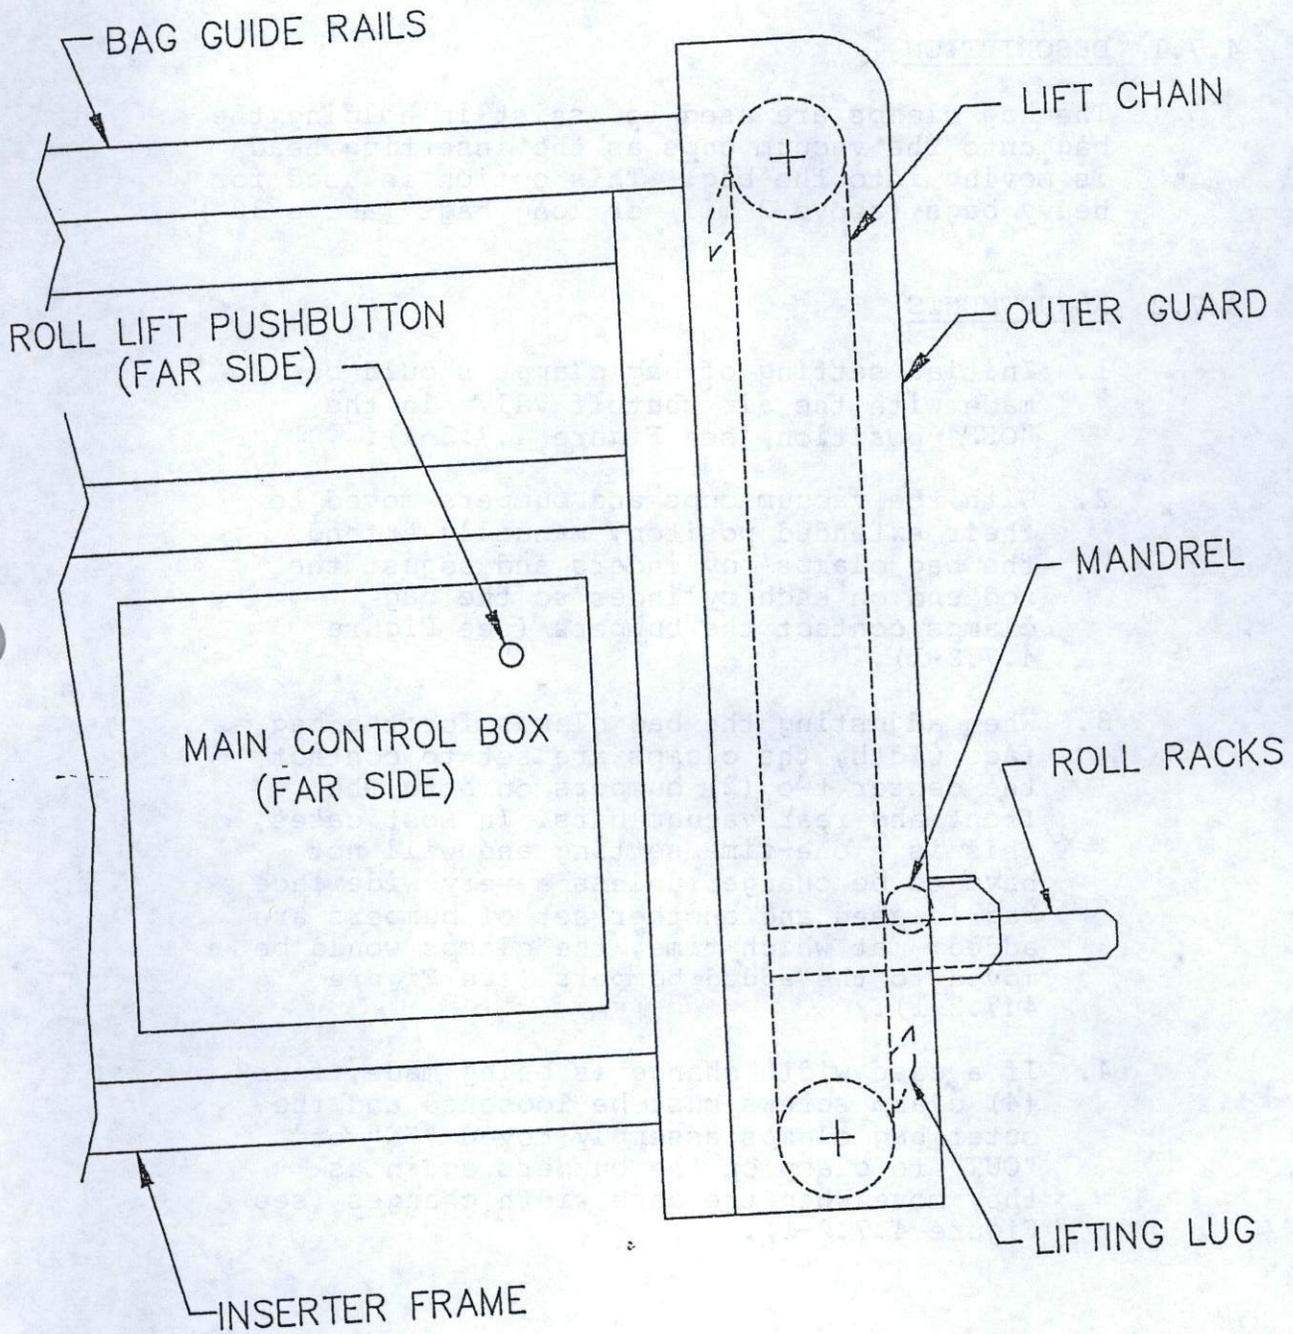

FIGURE 4.6.2-1
1. Adjust roll racks so chain will not hit mandrel; this is an initial setting and, once set, it should not have to be changed (see Figure 4.6.2-1).